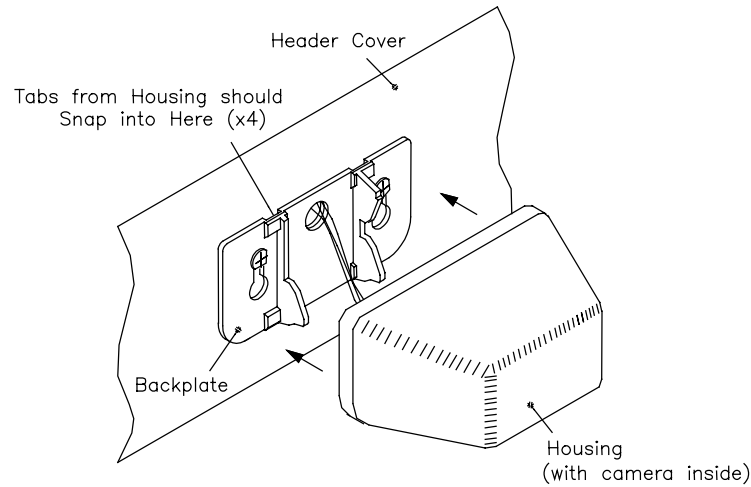

FIG. 4A
8. Once the camera is properly positioned inside the housing, snap the housing onto the backplate. Be careful not to pinch the cable. FIG. 4A and 4B